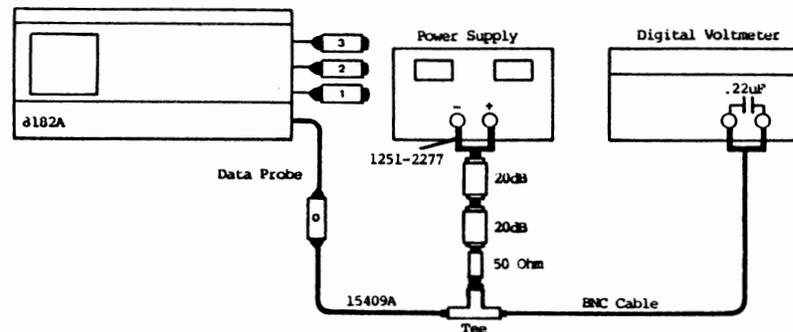

Figure 4-8 Offset Test Setup
**8. Connect equipment as shown in figure 4-8 and press RUN.****9. Increase power supply voltage slowly until the timing display just switches to high and note DVM reading. [Voltage A]****10. Decrease power supply voltage slowly until the timing display just switches back to low and note DVM reading. [Voltage B]**The Level Detection Accuracy =  $V_A - V_B$  must be  $< 30 \text{ mV}$ The Actual Threshold =  $(V_A + V_B)/2$  must be within  $\pm 2\%$  of progr.value  $\pm 10 \text{ mV}$ **EXAMPLE:** Programmed Threshold = 0.05 V